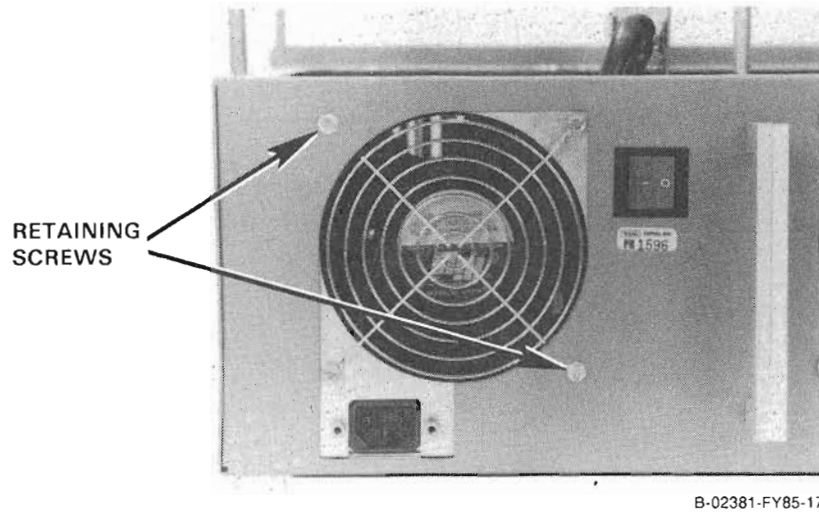

Fig. 5-4 Power Supply Retaining Screws
6. Remove the 2 hex head screws from the system as shown in Fig. 5-4.
5. Insert the 2 hex head screws into the system and tighten. (Ref. Fig. 5-4.)